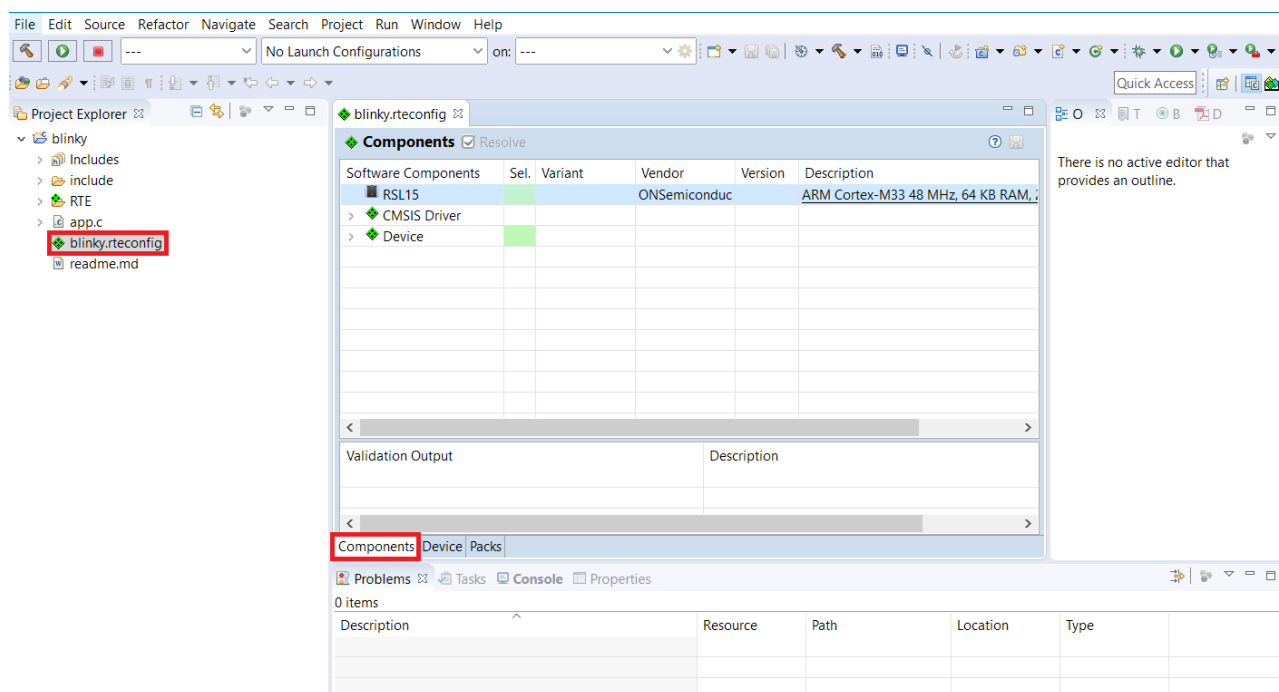

Figure 50. Opening the .rteconfig file in the onsemi IDE
1. From the C/C++ perspective, open any RTE configuration file, such as `blinky.rteconfig` (see the figure "Opening the .rteconfig file in the onsemi IDE" (Figure 50)).